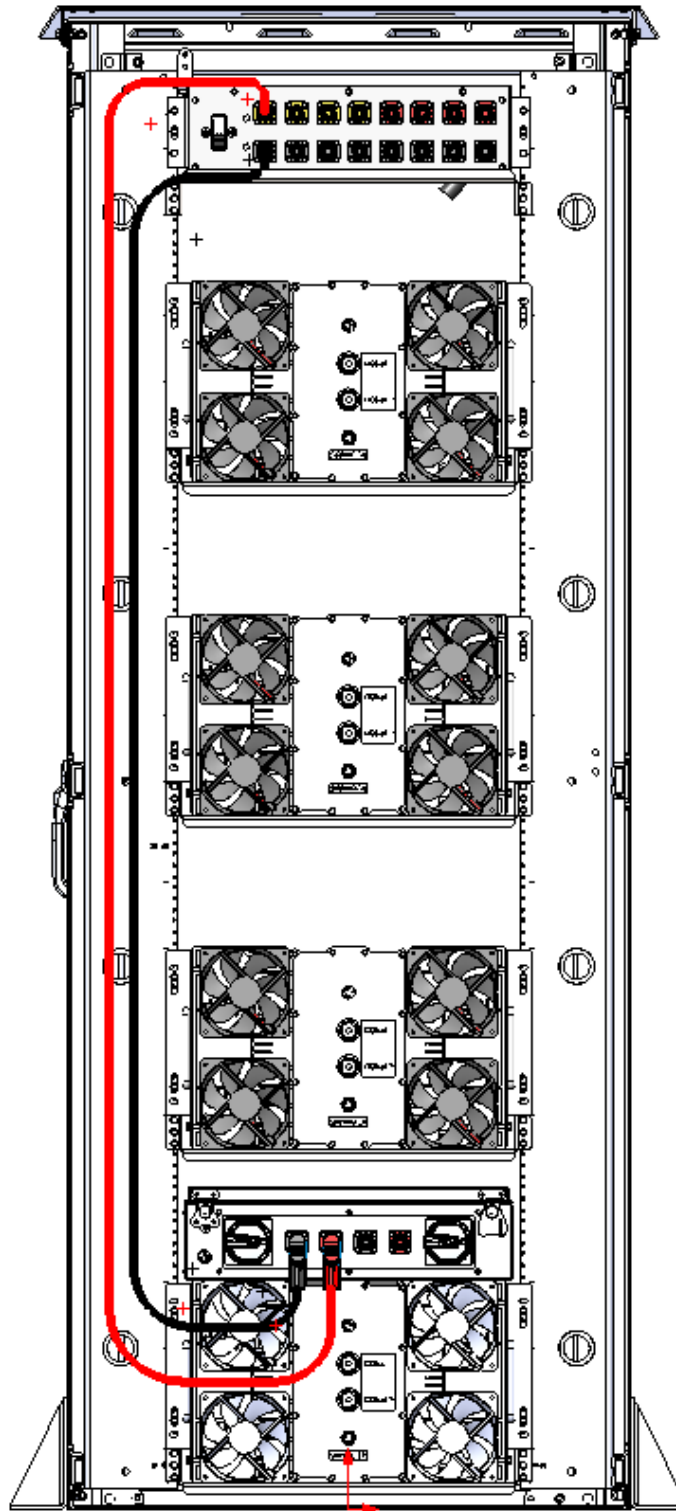

FIGURE 25: SURLOK CABLING ROUTED TO PRIMARY (INPUT) FEED #4
- (2) 8-foot SurLok Cables for SPOT #4 shown in Figure 25.